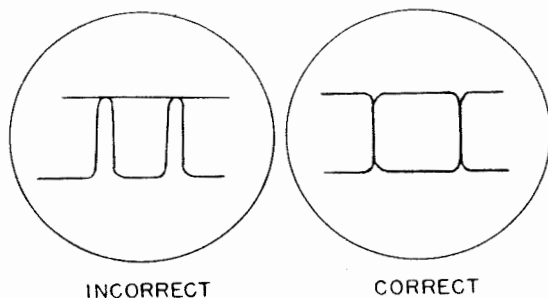

Figure 6-1. Test Oscilloscope Patterns for % MARK Control Adjustment
(1) Set the SPEED switch to ADJ position.
(2) Connect an external test oscilloscope, such as Navy OBL or OBT series, across a 20-ohm resistor connected to a plug inserted in the TTYP jack.
(3) Set the test oscilloscope sweep speed for approximately 90 cycles with sync off.
(4) Adjust the sweep control on the test oscilloscope for the peak of one cycle to be centered in the trough of another cycle (see Figure 6-1).
(5) If the troughs and peaks are unequal in width adjust the %MARK control to make them equal.
(6) After completion of check return SPEED switch to former position.
(7) If no teletypewriter equipment is available